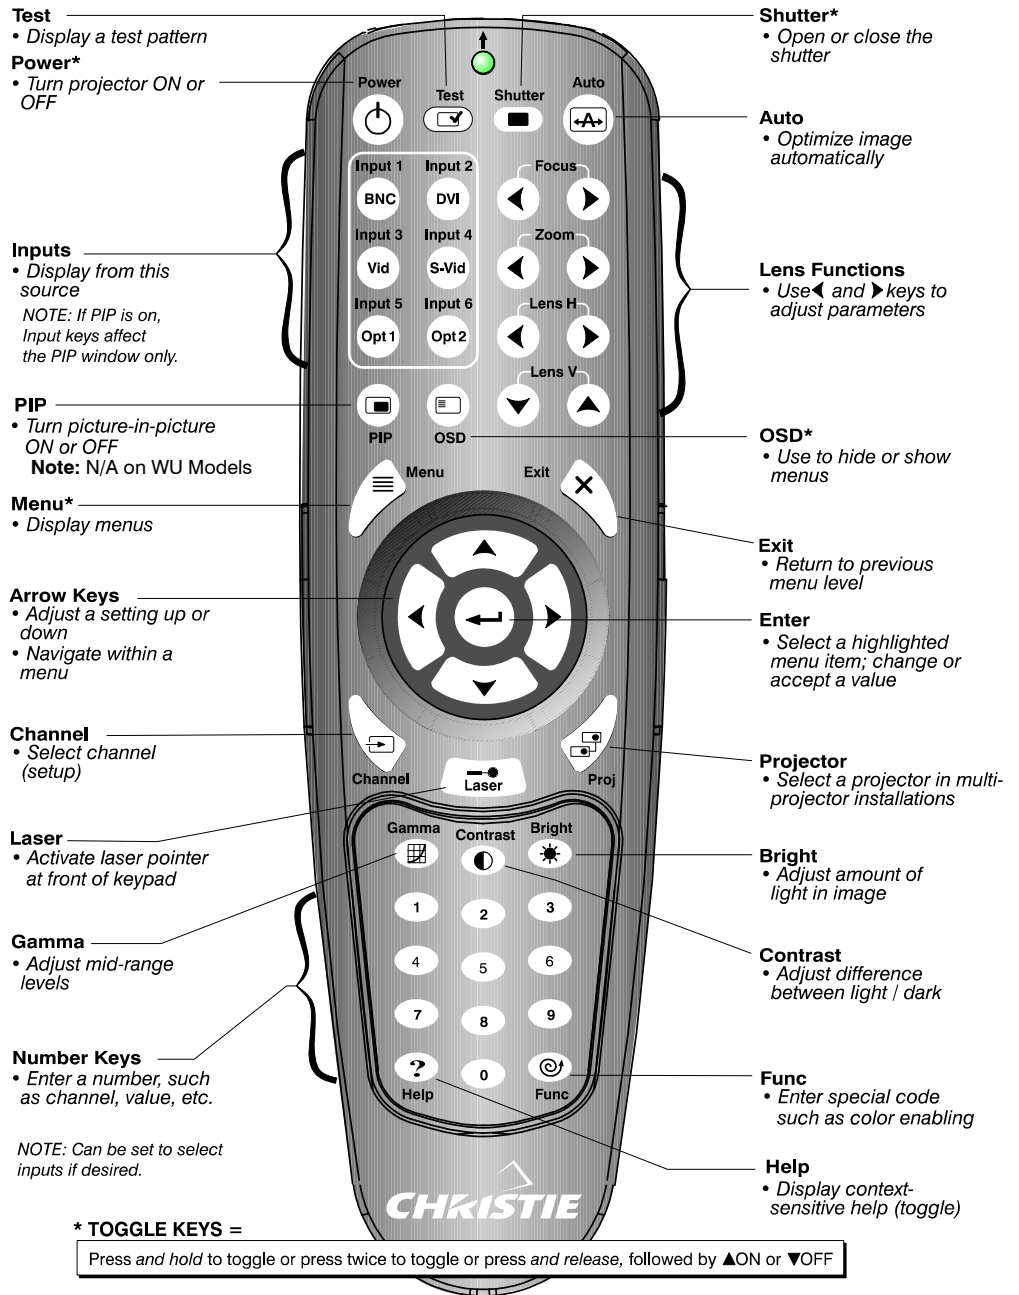

Figure 3.3. Remote Keypad
- 2) Note that three keys—Power, Shutter and OSD—press key once, refer to **Figure 3.3 Remote Keypad**